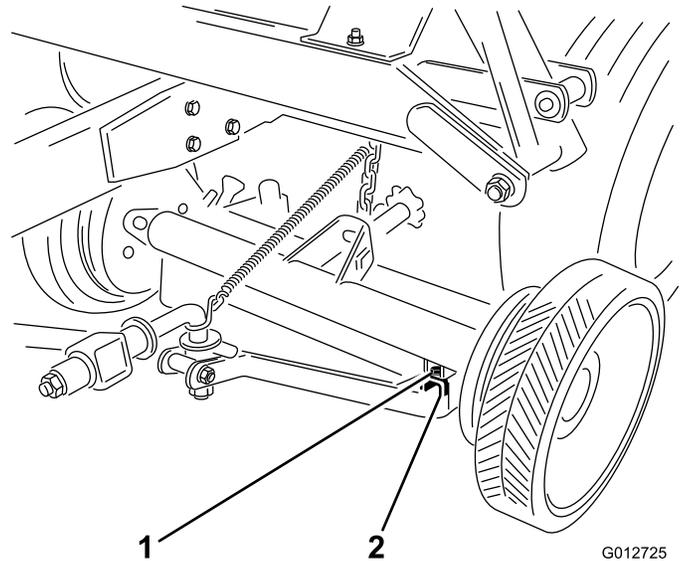

Figure 34
2. Secure each side (Figure 34) with a bolt (1/2 x 3-1/2 inch), spacer tube, and locknut (1/2 inch).